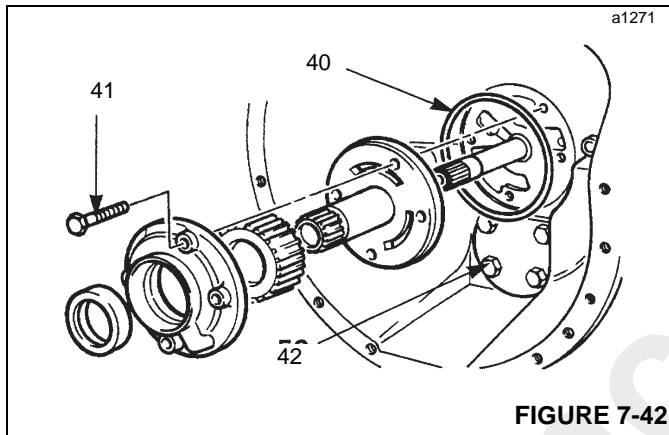

FIGURE 7-42
40. Place new pump sealing ring (40, Figure 7-42) in position. Make sure that the charge pump drain hole is clear before installing a new oil seal to the pump housing.
41. Install pump, taking care to align mounting holes. Apply Loctite 243 to the mounting bolts (41), and using new sealing washers, tighten to a torque of 20 to 27 Nm (18 to 20 lb-ft).
42. Check that the mainshaft end bearing is adequately lubricated with grease. Prior to installing the flywheel housing, apply Loctite 574 to the flywheel housing face. Apply Loctite 243 to the bolts (42) and tighten to a torque of 56 Nm (42 lb-ft).